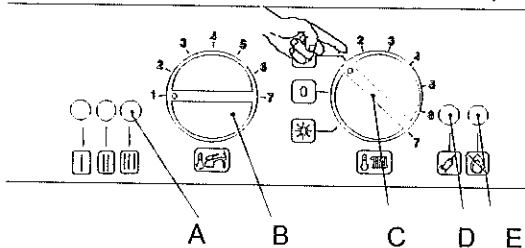

Figure 5.2
- 2 Turn on the electricity supply to the boiler, switching on the circuit breaker. The appliance operation light A (figure 5.2) will flash every 4 seconds (stand-by condition).
- 3 If the boiler is to be used for c.h position the function selector C as in figure 5.2. The appliance operation light A will flash every 2 seconds (operating boiler).
- The appliance operation light A (figure 5.2) will flash every 4 seconds (stand-by mode).